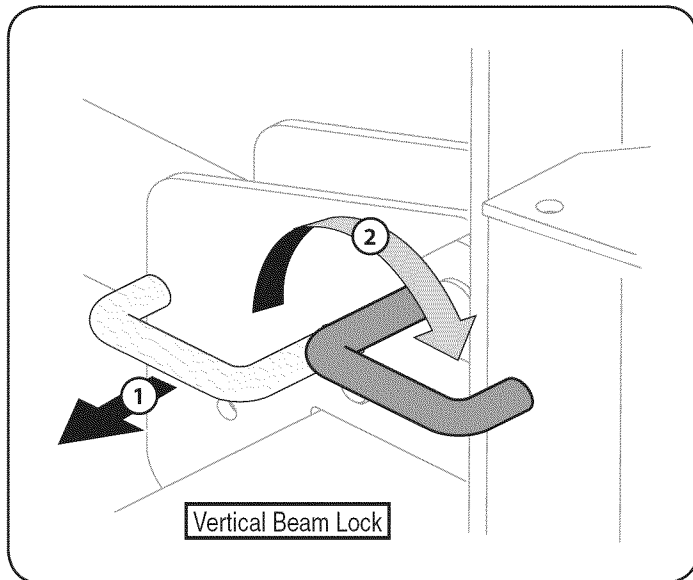

Figure 14
2. To lock the beam in the vertical position, pull out on the vertical beam lock and rotate it to secure the beam. See Figure 14.